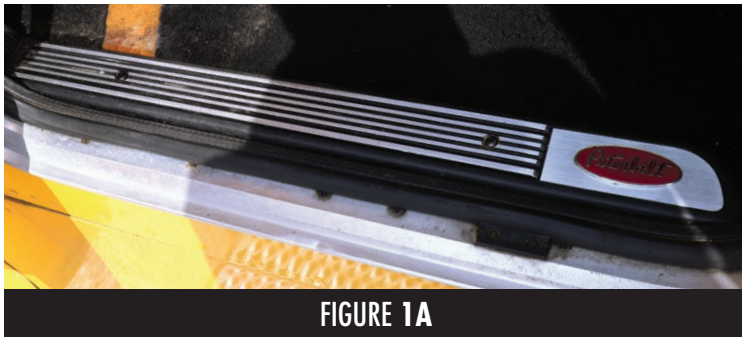

FIGURE 1A
**NOTE:** Screw locations may be in a different location if the door sill plate was installed in reverse. Underneath the door sill plate are multiple screw locations (See Fig. 2C), so installation will not be a concern. Figure 1A shows the screw locations that the RWC Billet Door Sill will be using.